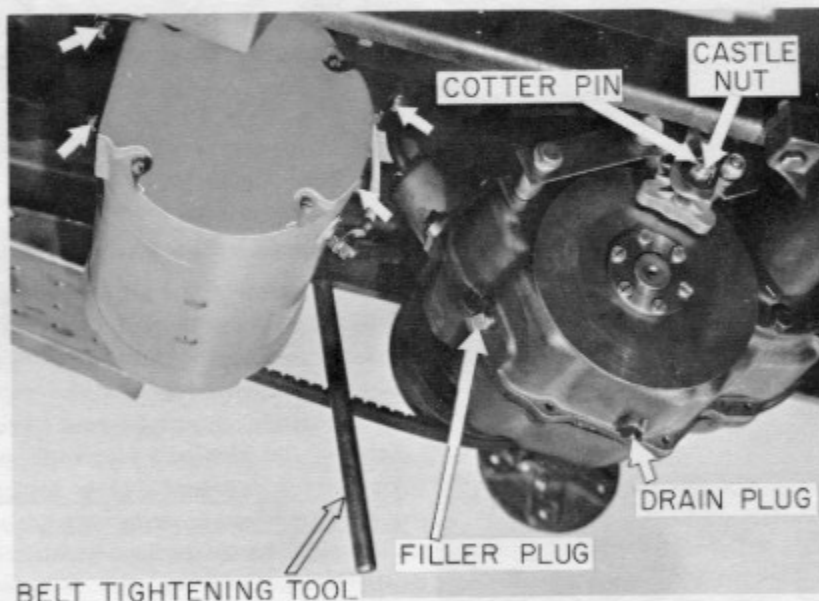

Figure 9. Brake, Transaxle, and Motor Mounting
After 100 operating hours, the trans-axle filler plug should be removed and the fluid level checked (See Figure 9). The oil level should be to the bottom edge of the filler hole. If necessary, replenish with approved ELEC-TRAK axle fluid *only*.
1. Loosen four carriage bolts holding motor plate. Insert a 1/4" wedge under the forward part of the motor plate, and retighten bolts finger tight (See Figure 9).
A fully depressed brake pedal or an engaged parking brake should be sufficient to prevent the tractor from *rolling* on average hillsides. If the brakes do not perform satisfactorily, the following adjustment may be made which will correct both brakes simultaneously: (See Figure 9).